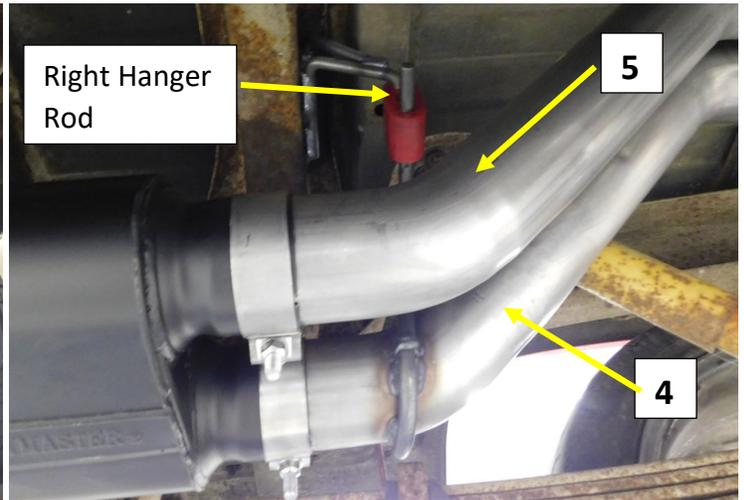
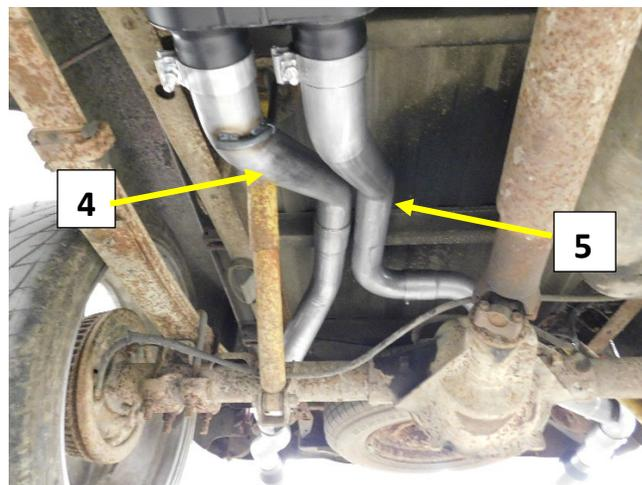

Figure.10
Figure. 11
11. Install the red tail pipe hanger on to the muffler frame hanger and insert the pipe into the muffler **Fig.10** Tighten the clamp to allow for adjustment. Adjust the pipe for 1" to 1.5" clearance on the shock. Tighten the clamp. **Fig.10, Fig.11**
12. Install the left muffler outlet pipe (5) into the muffler. Rotate the pipe up to within ¼" of the right muffler outlet pipe and tighten the clamp. **Fig.10, Fig. 11**